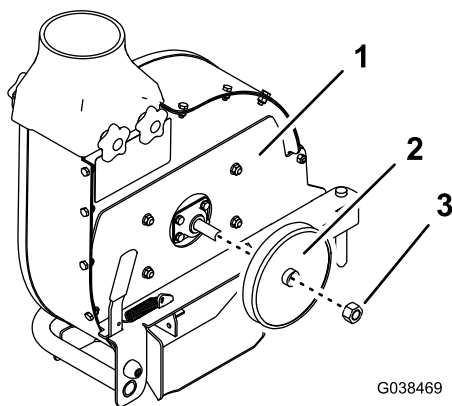

Figure 27
7. Remove the pulley from the blower assembly (Figure 27).